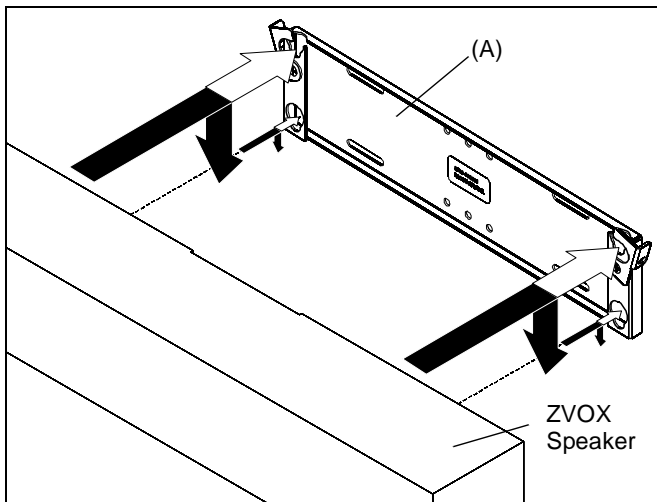

Figure 13
- Open latching flags on speaker bracket. (See Figure 13)
- Slide mounting buttons on speaker into teardrop holes in speaker brackets (A), and lower speaker until recessed area of mounting buttons is seated in lower area of teardrop mounting holes. (See Figure 13)